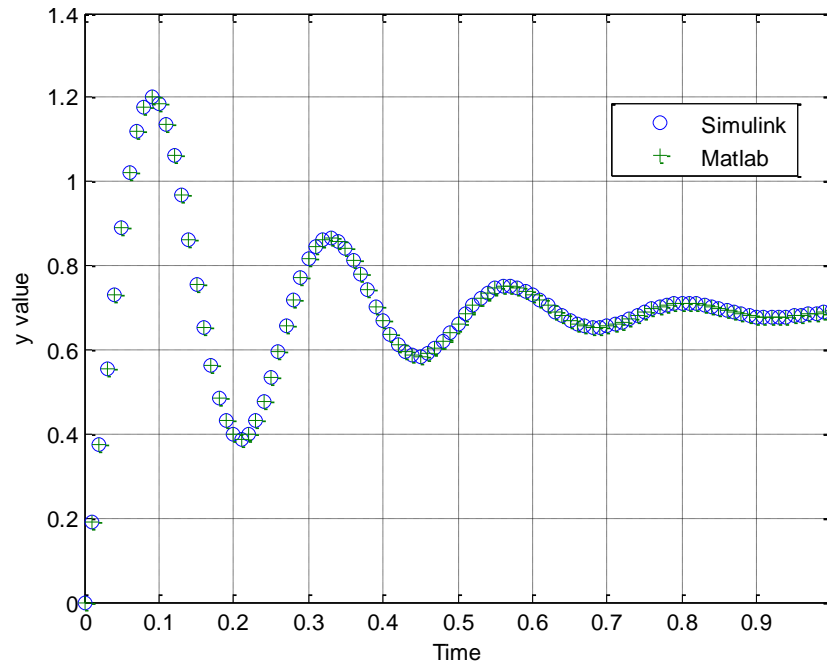

Figure 7. Matlab and Simulink results for PD controller.
5) Modify your simulation to use the proportional+derivative controller, $G_c(z) = \frac{12.8(z - 0.653)}{z}$. Your results should look like those in Figure 7. *Include this figure in your memo.*